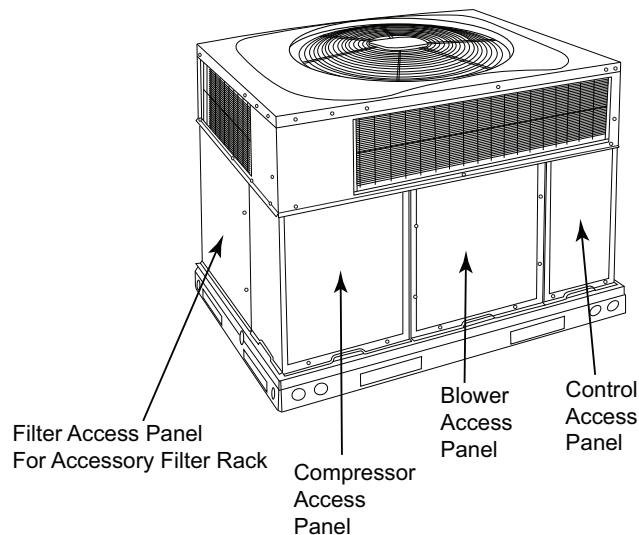
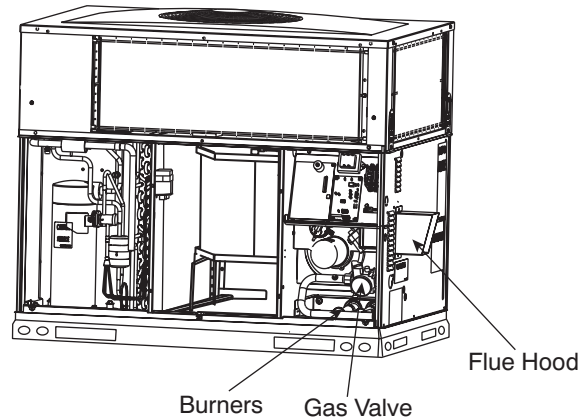
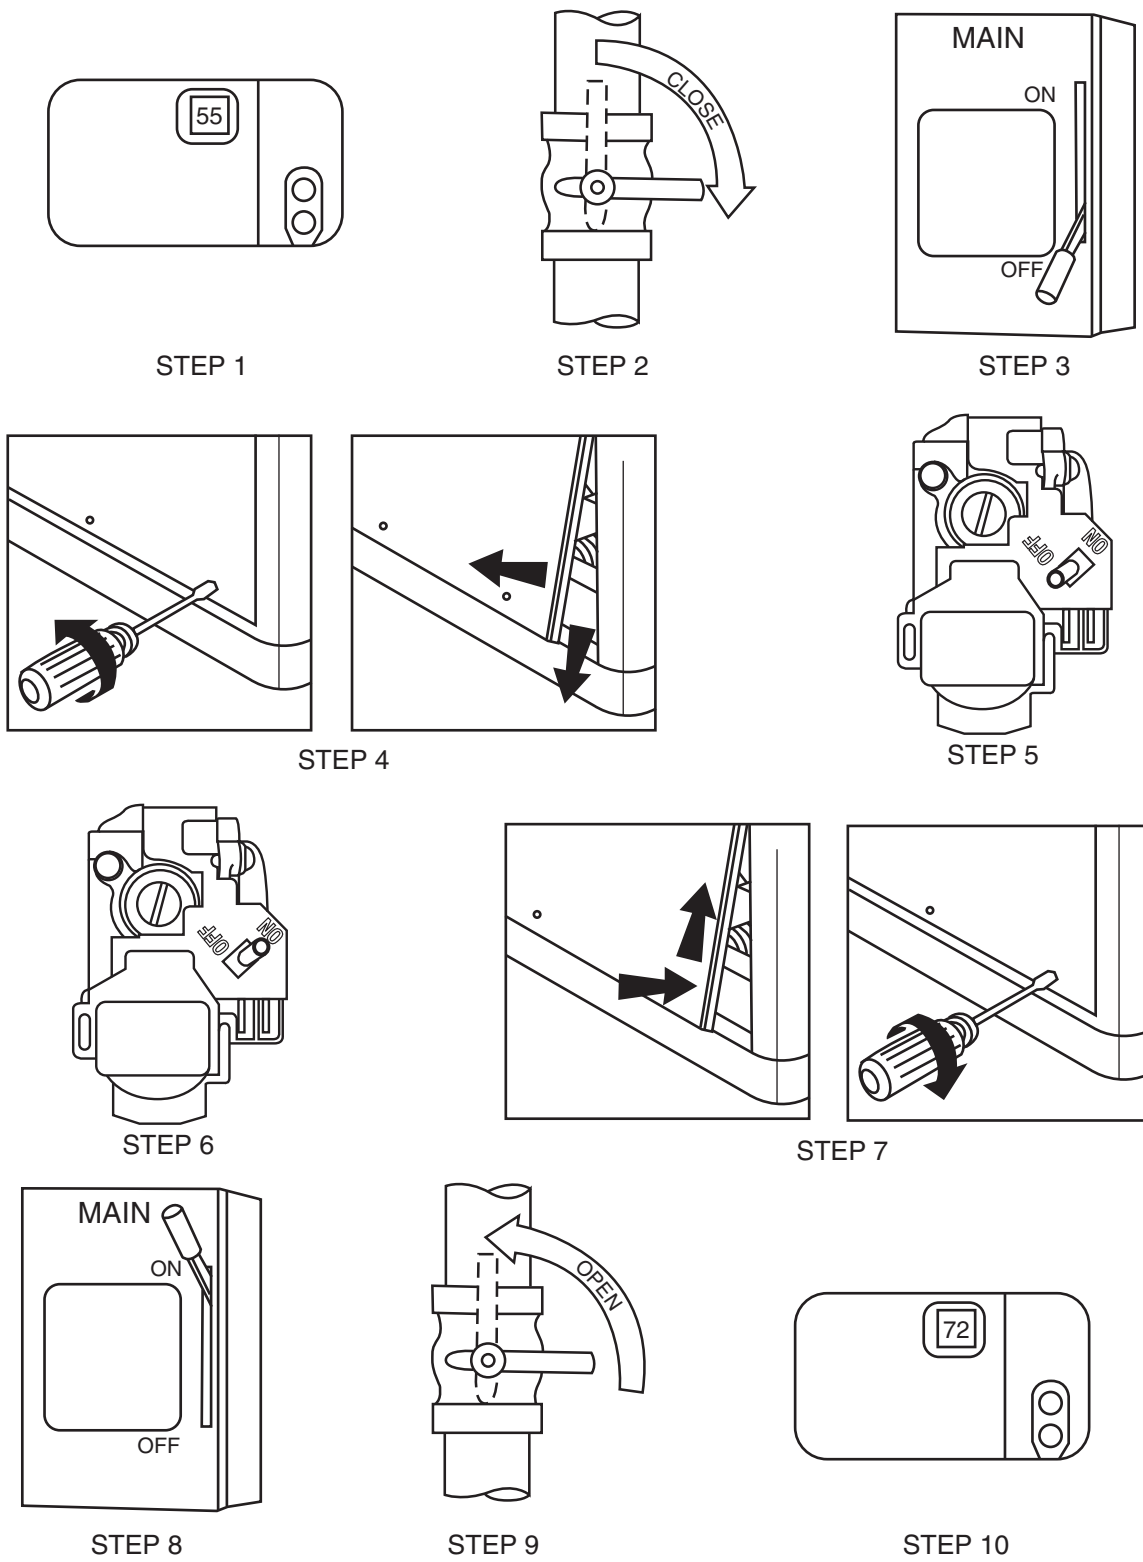

Fig. 2 - Unit Access Panel
Fig. 3 - Gas Heating/Electric Cooling Unit with Access Panel Removed
Fig. 4 - To Start Unit Gas Heat
Refer to Fig. 2 for location of unit front access panel. Refer to Fig. 3 for location of gas valve. Refer to Fig. 4 while proceeding with the following steps.
4. Remove the control access panel with a 5/16-in. nut driver. (See Fig. 2.)
4. Remove the control access panel. (See Fig. 2.)
To replace or inspect filters in accessory filter rack (See Fig. 2):